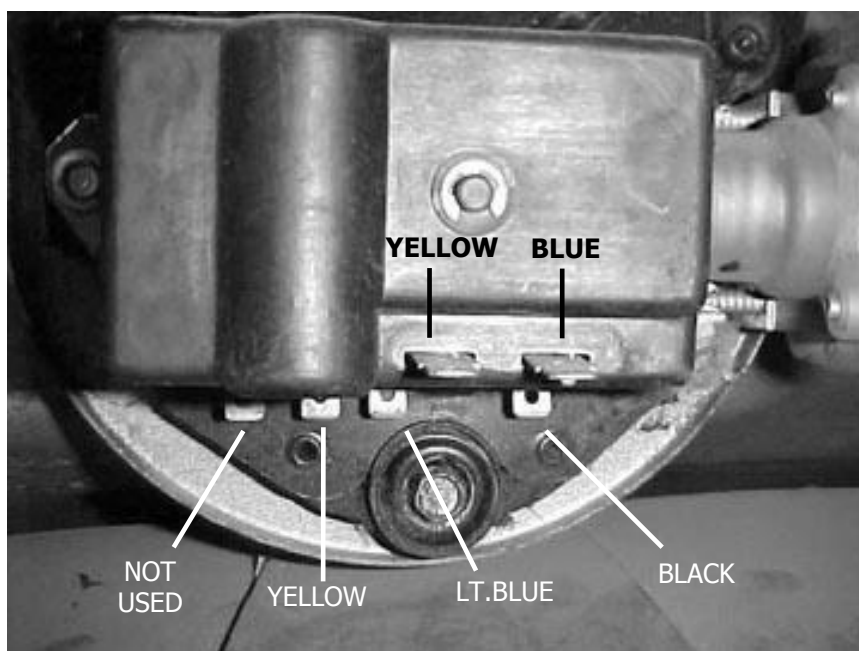

Figure 8.12 Wiper Motor Connections
- 8.3.2** Cut wiper motor wires to length, terminate and connect wires as shown in Figure 8.12